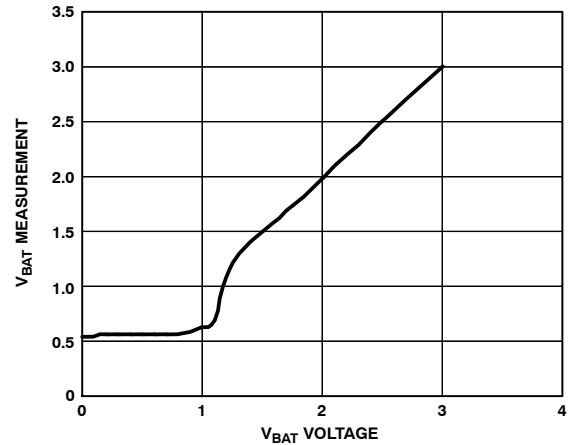

Figure 14. V_{BAT} Measurement vs. Voltage
4. Total unadjusted error (TUE) includes offset, gain, and linearity errors of the ADC, multiplexer, and on-chip input attenuators. V_{BAT} is accurate only for V_{BAT} voltages greater than 1.5 V (see Figure 14).